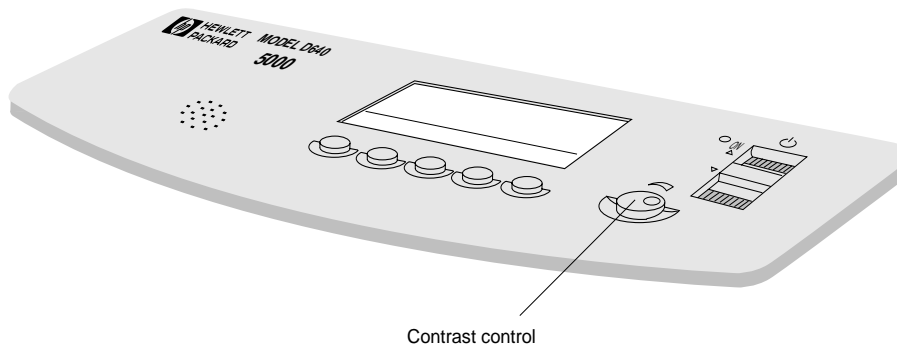

Figure 2-43 Contrast Control Knob
6. If you do not see anything on the display, turn the contrast control knob to the 2:00 o'clock (1400) position, as shown in Figure 2-43.